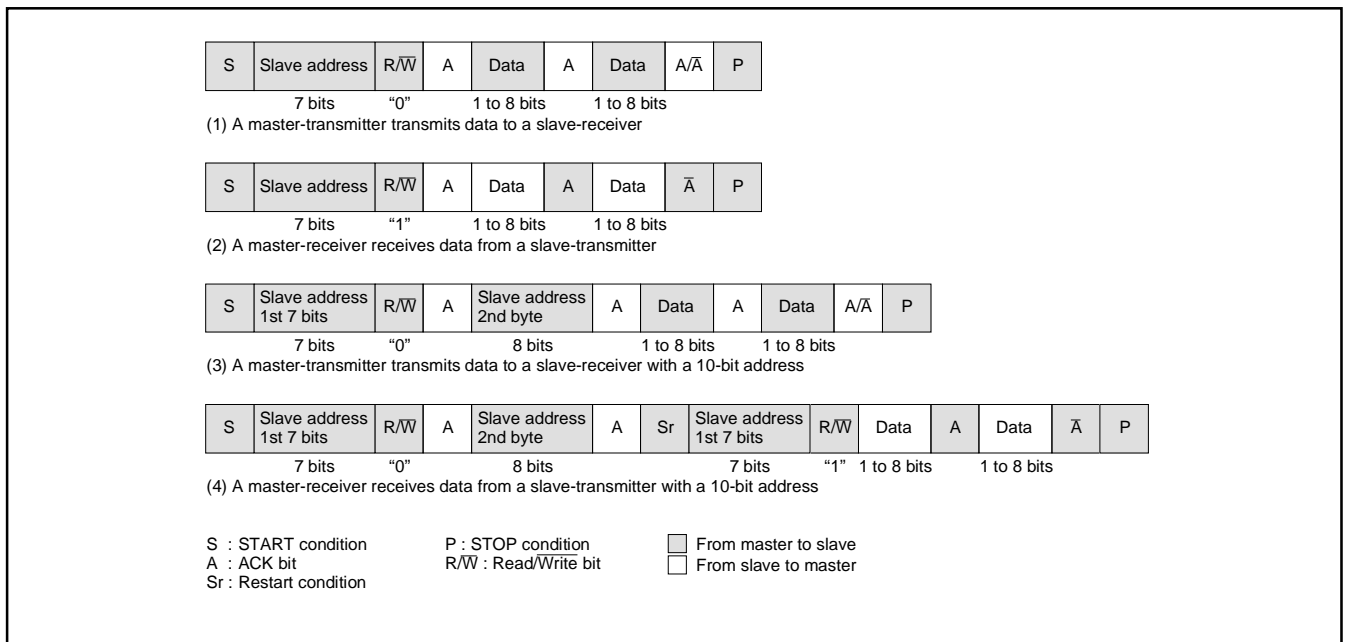

Fig. 8.6.13 Address Data Communication Format
To support the 7-bit addressing format, set the 10BIT SAD bit of the I2C control register (address 00F916) to "0." The first 7-bit address data transmitted from the master is compared with the high-order 7-bit slave address stored in the I2C address register (address 00F716). At the time of this comparison, address comparison of the RBW bit of the I2C address register (address 00F716) is not made. For the data transmission format when the 7-bit addressing format is selected, refer to Figure 8.6.13, (1) and (2).
When the first-byte address data matches the slave address, the AAS bit of the I2C status register (address 00F816) is set to "1." After the second-byte address data is stored into the I2C data shift register (address 00F616), perform an address comparison between the second-byte data and the slave address by software. When the address data of the 2nd byte matches the slave address, set the RBW bit of the I2C address register (address 00F716) to "1" by software. This processing can match the 7-bit slave address and R/W data, which are received after a RESTART condition is detected, with the value of the I2C address register (address 00F716). For the data transmission format when the 10-bit addressing format is selected, refer to Figure 8.6.13, (3) and (4).